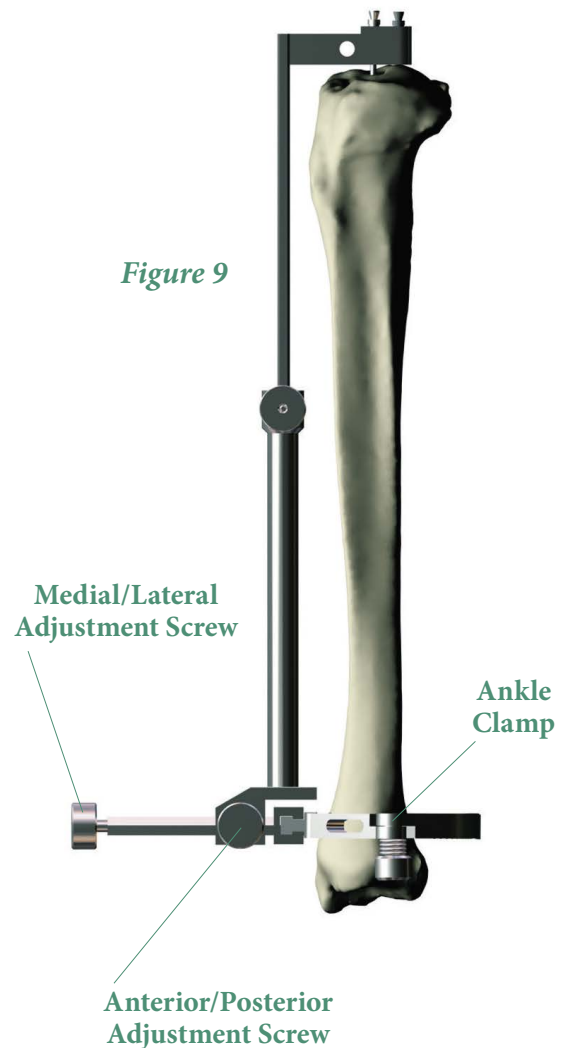

Figure 9
- Axial alignment is achieved when the vertical shaft of the instrument parallels the long axis of the tibia in both the anterior/posterior and medial/lateral planes (Figures 9 and 10).